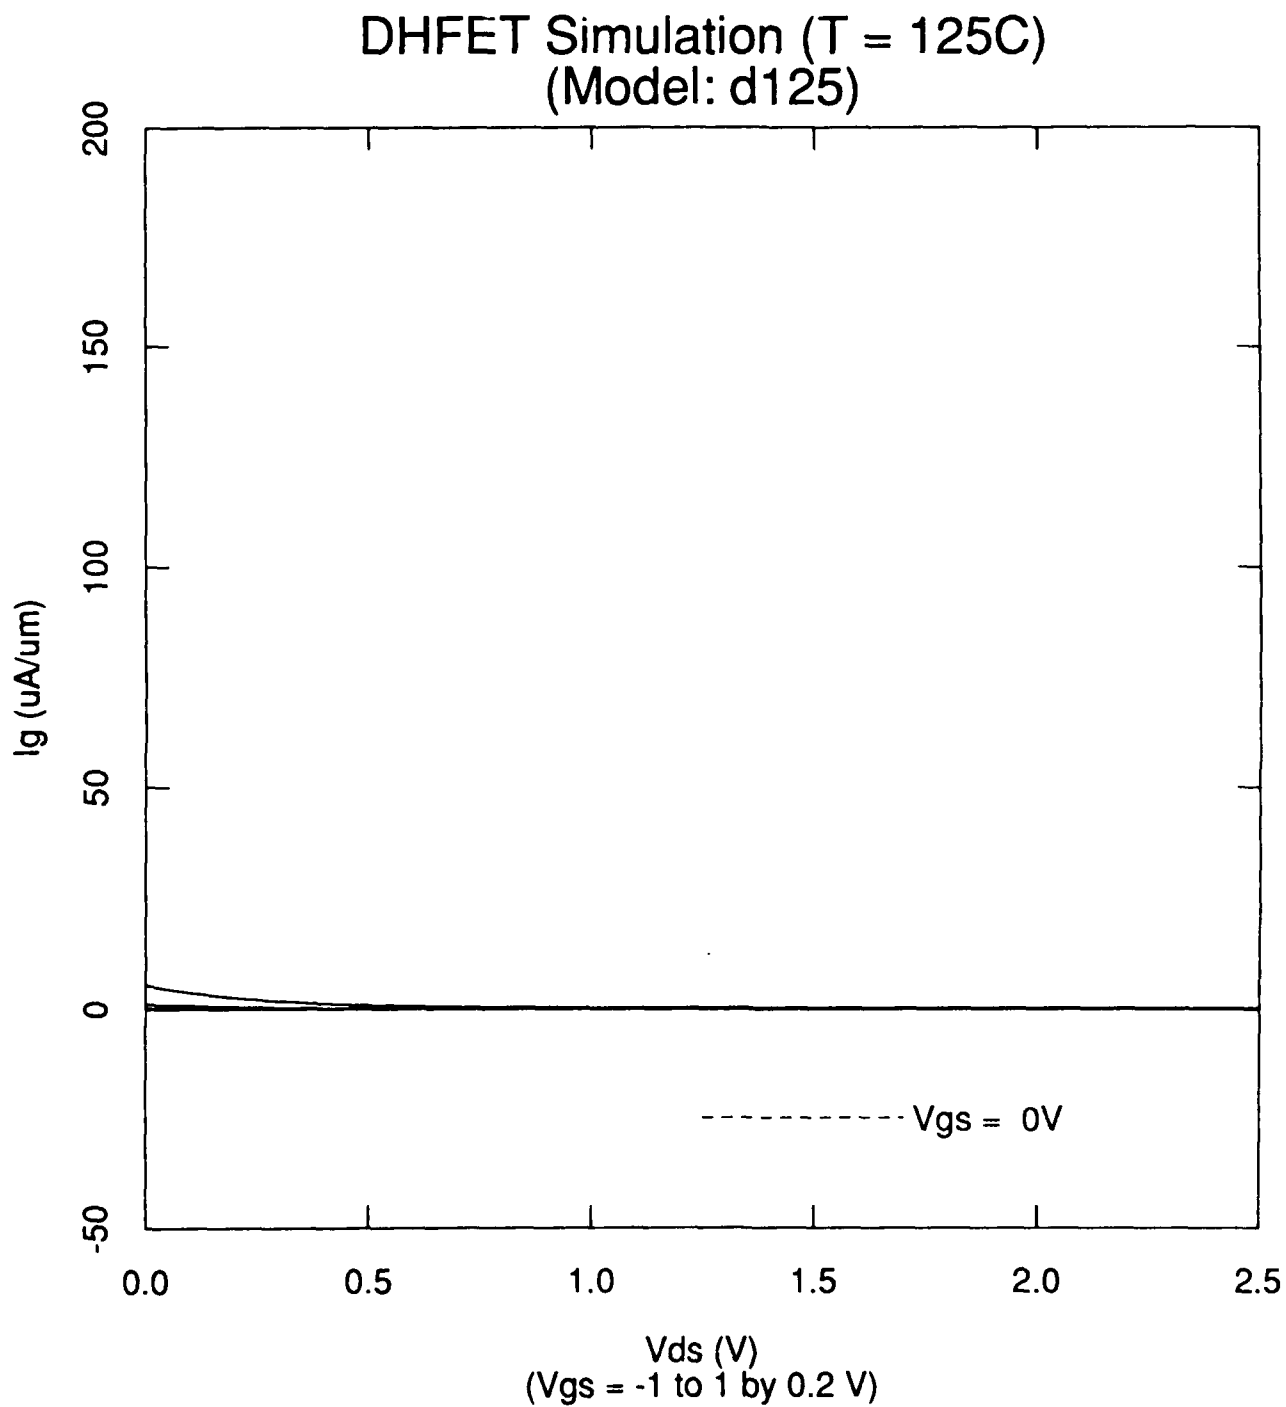

Figure 10. Ig vs. Vds (Vgs stepped) for d125 DHFET Simulation at 125C.
- Figure 10. I_g vs. V_{ds} (V_{gs} stepped) for d125 DHFET Simulation at 125C.